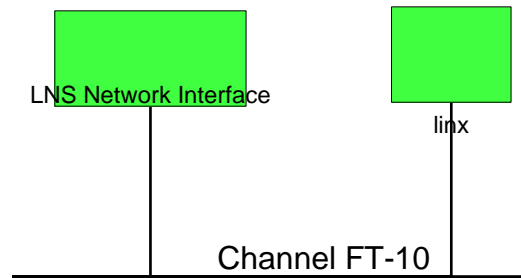

Figure 113: The L-INX has been added to the drawing.
10. Finally, you should get the device added to your drawing as depicted in Figure 113.